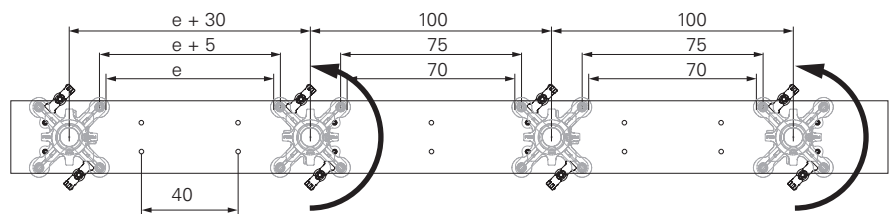

Fig. A6.12
- At a distance of 1 m, it is possible to centre in holes of the main beam. To do this, fit the lowering jacks, each rotated by 180°, and then secure them with two opposing girder clamps (**23**). (Fig. A6.12)
Measure the dimension e at the straight base edges of the lowering jack (Fig. A6.12)